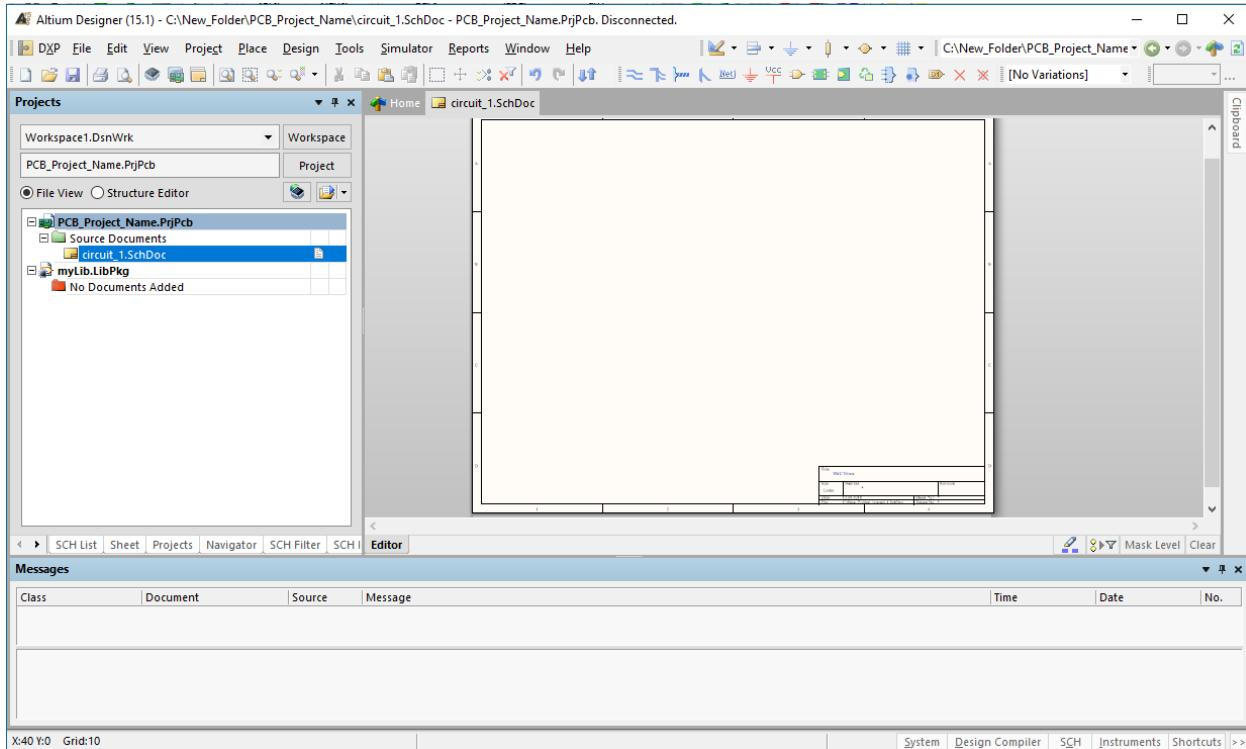

Figure 23: Altium empty Integrated Library.
14. Figure 23 shows the generated Integrated Library similar to an empty project documents as schematic library and PCB library need to be added named and saved.